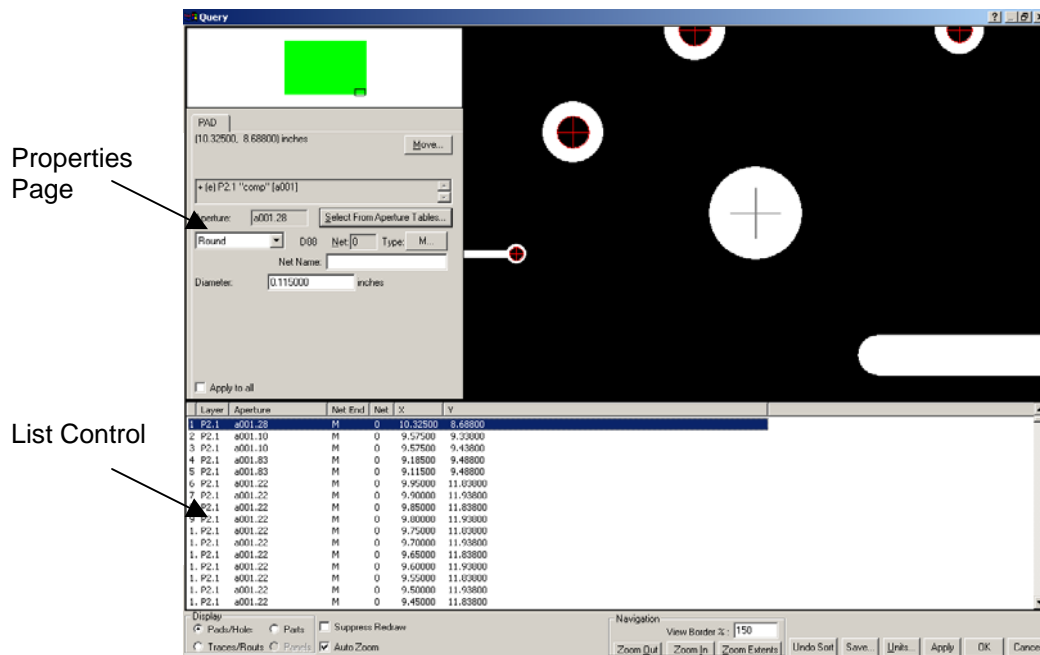

Figure 10: The Query Window
4. Select **Tools > Query** and the Query window will appear (see Figure 10)